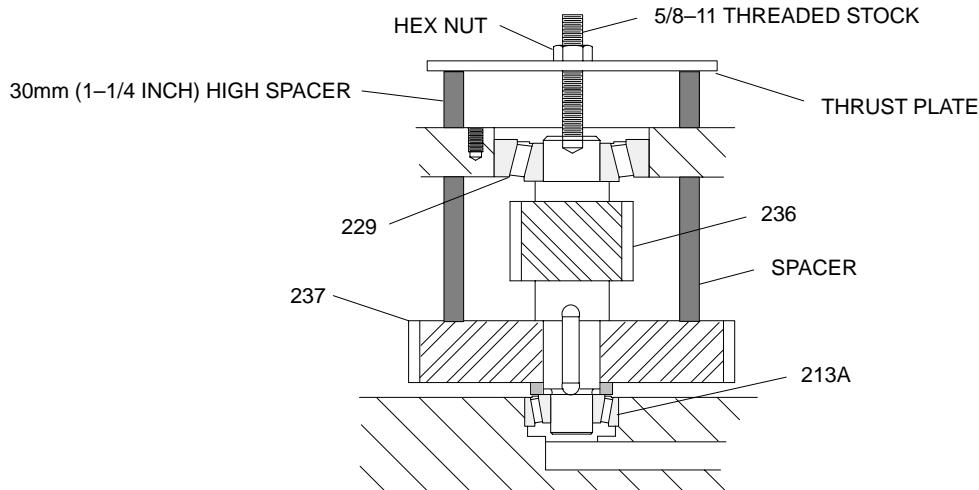

Figure 4
- a . Return low speed pinion shaft (236) to its original position.
- b . Replace the upper spacer, thrust plate and hex nut, and install a second spacer between the high speed gear (237) and the underside of the gear drive housing (see Figure 4). This will press the gear off the shaft.
- c . Tighten the hex nut, raising the low speed pinion shaft (236) until it is clear of the high speed gear (237) and remove the shaft.
- d . Remove the spacer (214).
- e . Inspect the intermediate bearings (213A & 229) and replace if necessary. If the bearings or the pinion shaft are replaced, a new shim set (241) will be required. If the bearings must be replaced, the outer race of the lower bearing can be removed from its bore with a small puller.